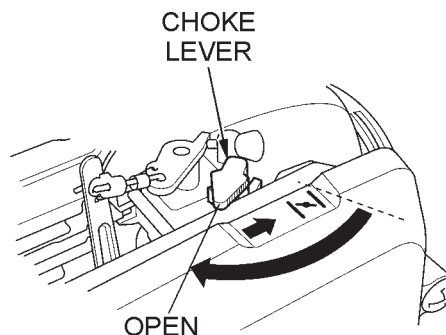

Figure 7. Choke Lever
3. Close the choke lever Figure 7 and move the throttle lever to the "**Full Open**" position. Turning the choke lever 90 degrees clockwise closes the choke. In cold weather, start the unit with choke fully closed. In warm weather or when the engine is warm, the unit can be started with choke halfway or completely open.
5. If engine fails to start, move the choke lever (Figure 7) to the half open position to avoid flooding.